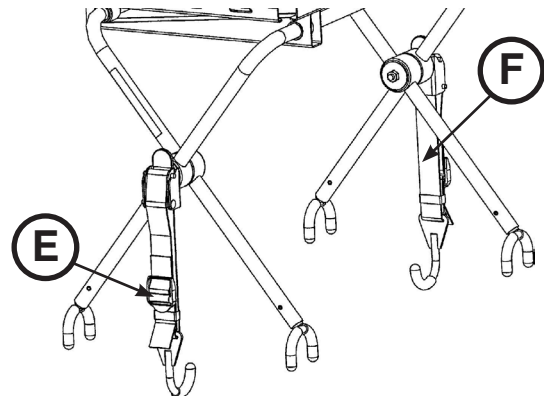

Figure 84
- If the defibrillator platform is not securely attached to the cot when both latch hooks are engaged or if you cannot secure the latch hooks around the cot litter frame, unlatch the tab (E), loosen or tighten the strap (F) until the proper adjustment is achieved, and then push the tab (E) up until it locks into place with an audible click (Figure 84).